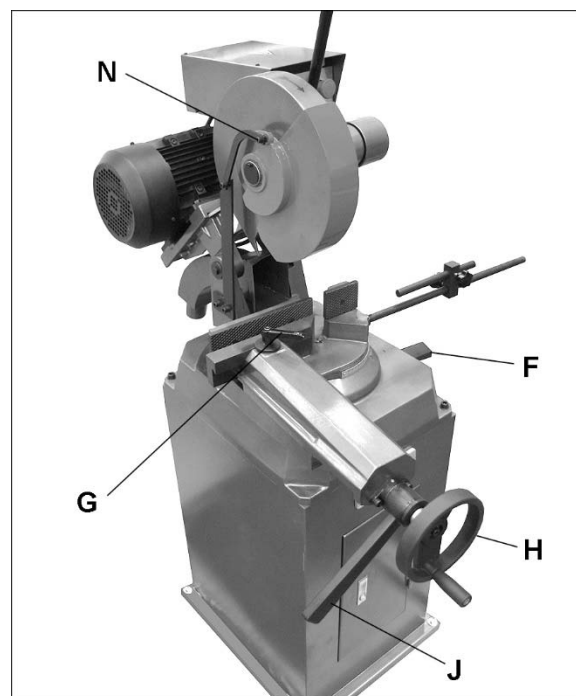

Figure 7-1 (AB-12 shown)
Refer to Figure 7-1.
1. Move lock lever (F, Figure 7-1) toward the front to release.
3. Loosen handle (G) atop vise, and slide jaw as needed to accommodate blade angle. Position vise jaw as close as possible to blade. Retighten handle securely.
The AB-12 vise is self-centering and has a cam action lever for fast clamping. Turn handwheel (H, Figure 7-1) to move vise jaw about 1/16-inch away from work piece, then rotate cam lever (J) counterclockwise to tighten.
3. Remove screw (N, Figure 7-1) to release linkage from blade guard, and rotate guard out of the way.